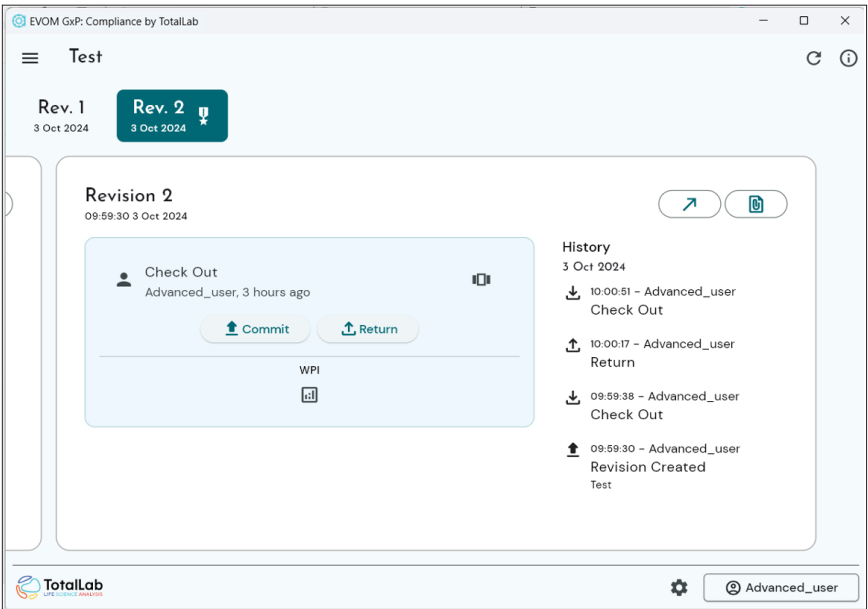
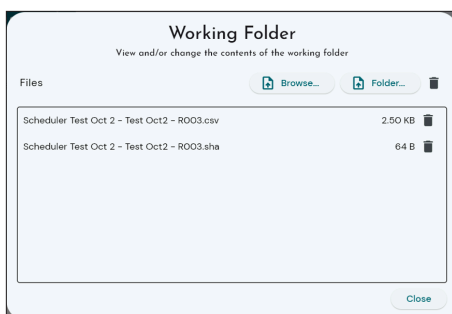

Fig. 46—For Option A, the checkout area in the center of the screen has a working folder icon that allows you to access all the files in the current version.
Fig. 47—From the working folder, you may import files or directories into the folder.
1. If you select Option A, you have a working folder icon  in the Checkout area that allows you to access the working folder (Fig. 46). Selecting that icon displays a list of the available files in the current version of the project (Fig. 47).